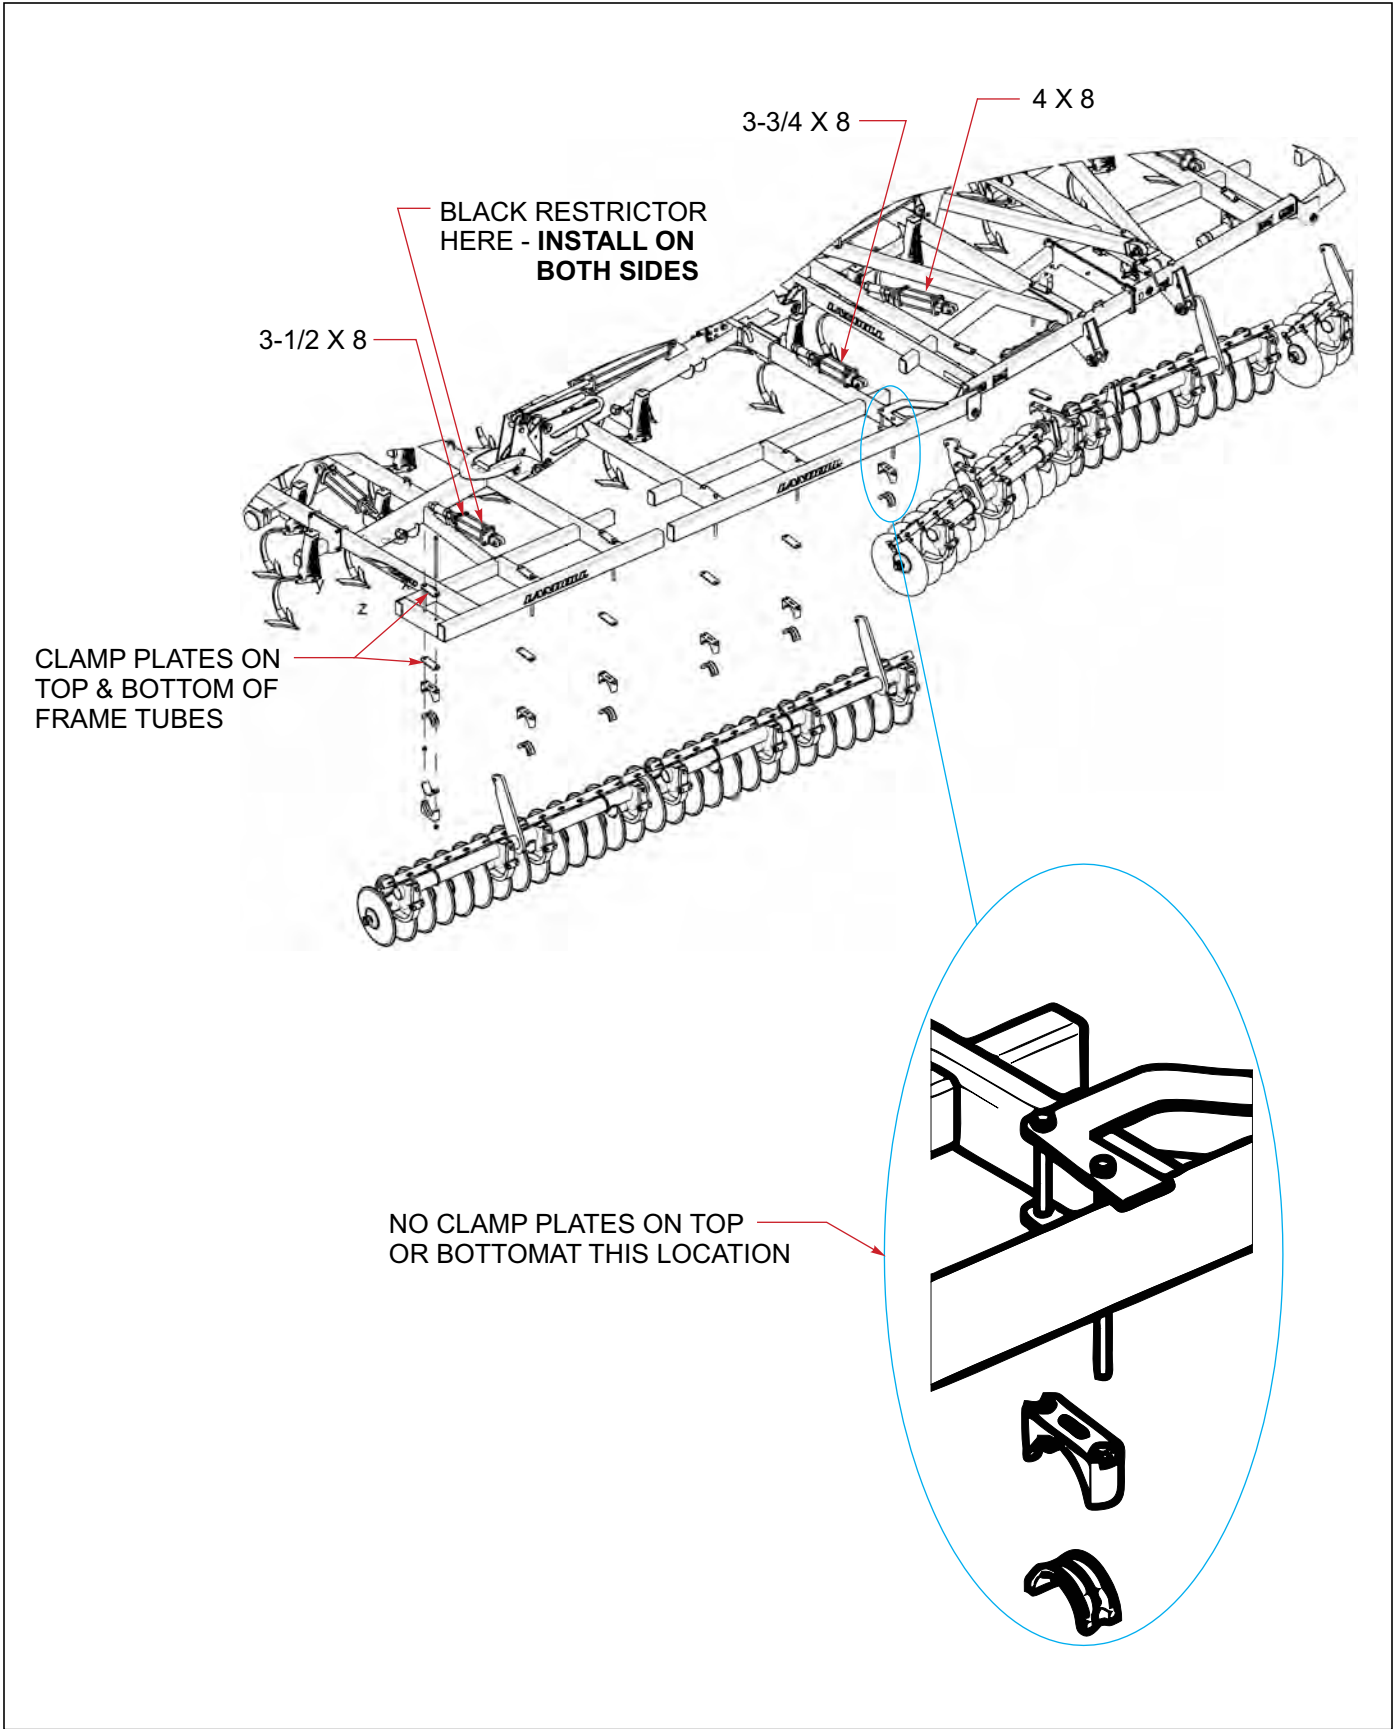

Figure 3-17: Disc Gang Installation (2 of 2)
6. Align the cylinder mounts on the disc gang assemblies with the mounts on the center frame to properly position the gangs. All of the mounting locations except the inner most wing location will have two hole clamp plates on the top and bottom of the frame (See **Figure 3-17.**)
7. Install the hydraulic cylinders for the gangs by attaching the base end of the cylinder to the adjustable mount on the frame and the rod end to the gang assembly with the ports pointing upward. The center frame will have 4 x 8 cylinders, the inner wing will have 3-3/4 x 8, and the outer wing 3-1/2 x 8 cylinders. Each cylinder will have regular 90 degree fittings installed into them facing to the rear of the machine. The outer wing cylinders will have a 1/16" restrictor (black fitting) installed into the rod end as shown in **Figure 3-17.**